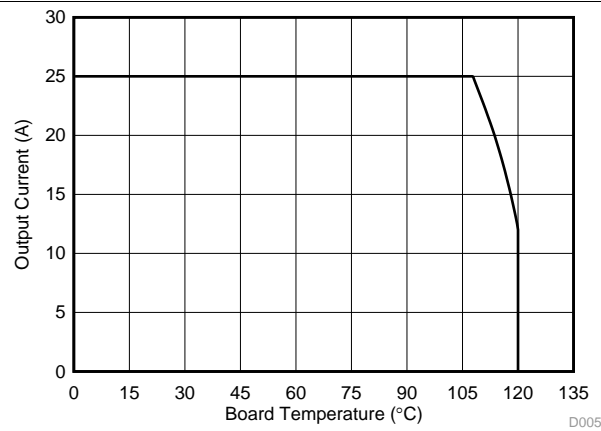

Figure 4. Typical Safe Operating Area(1)
The SOA curves in the CSD87335Q3D data sheet provides guidance on the temperature boundaries within an operating system by incorporating the thermal resistance and system power loss. **Figure 4** outline the temperature and airflow conditions required for a given load current. The area under the curve dictates the safe operating area. All the curves are based on measurements made on a PCB design with dimensions of 4 in (W) × 3.5 in (L) × 0.062 in (T) and 6 copper layers of 1-oz copper thickness.